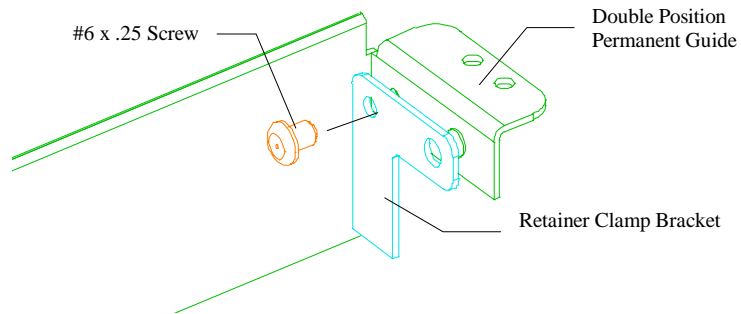

Figure 4 Attaching a Retainer Clamp Bracket to the Double Position Permanent Divider
| Figure 4 Attaching a Retainer Clamp Bracket to the Double Position Permanent Divider | 5 |
1. Attach the Retainer Clamp Bracket to the Double Position Permanent Divider using the #6 x .25 Self Tapping Screw. Note: the alignment post on the divider will go through the Clamp Bracket (see Figure 4).
3. Install the Guide/Clamp Bracket using the right mounting hole in the divider (see Figure 4). Align the divider with the two cyan colored dots to the left. This bracket assembly will hold down the left Helix Guide.